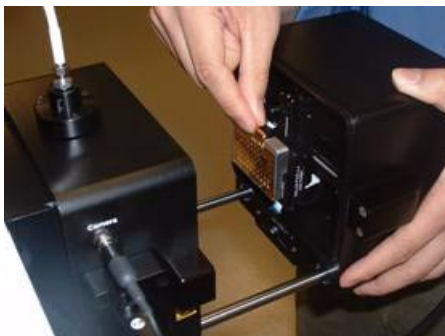

Figure 144 Inserting the Target Plate
- 4 Insert the Target Plate with the prepared sample spots into the Target Plate Holder. The plate is held in place by a magnet. See Figure 144.